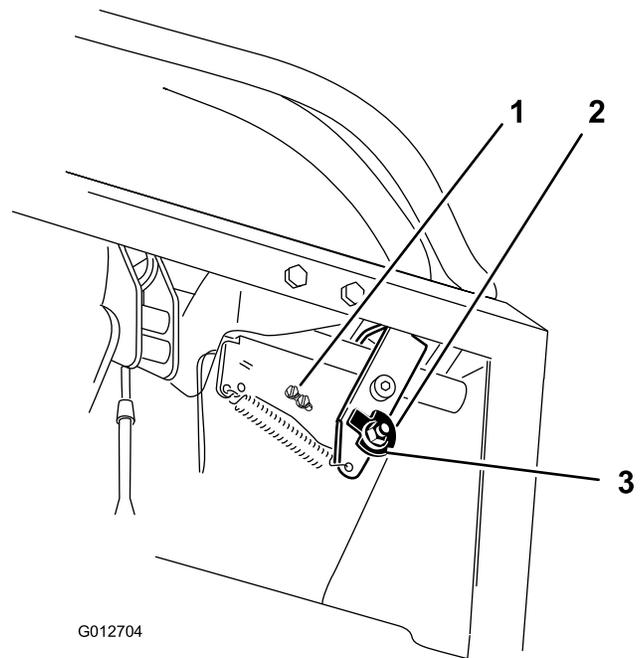
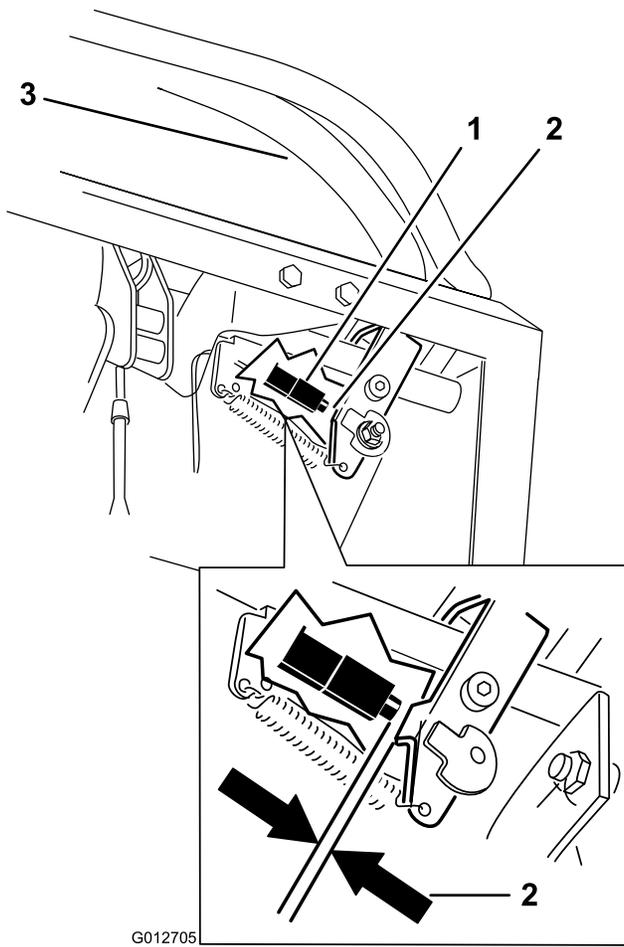

Figure 68
Figure 69
10. Check the gap between the control lever and switch as shown in Figure 69. The gap needs to be an 1/8 inch (3mm) with the right motion control lever in the neutral, unlocked position.
11. If needed, loosen the screws holding the switch and adjust the switch (Figure 68 and Figure 69).
7. Loosen the nut holding the cam (Figure 68).